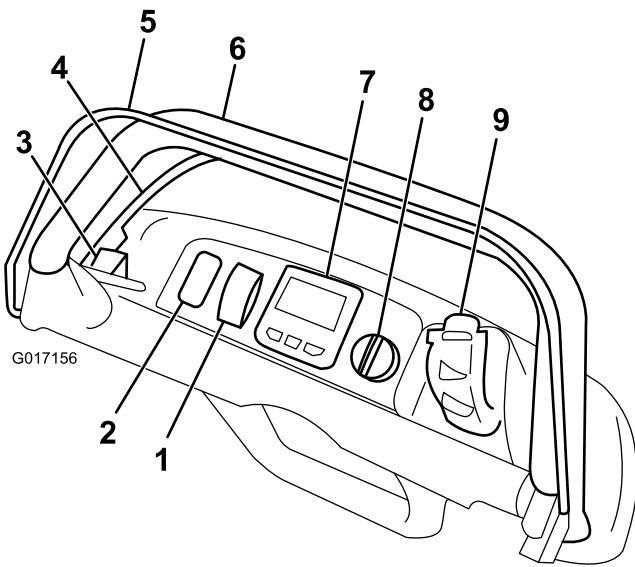

Figure 4
2. Set the parking brake (Figure 4).